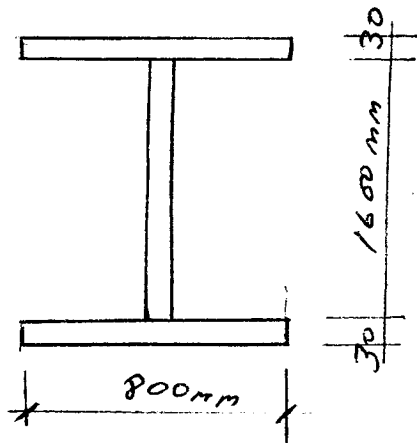

FIG. 2.0
2. A Plate girder shown in Fig. 2.0 is chosen on a trial basis to carry maximum coincident values of moment and shear 650 kN-m and 3600kN, respectively. The steel grade is 43 and the beam is to be fully braced against lateral instability.